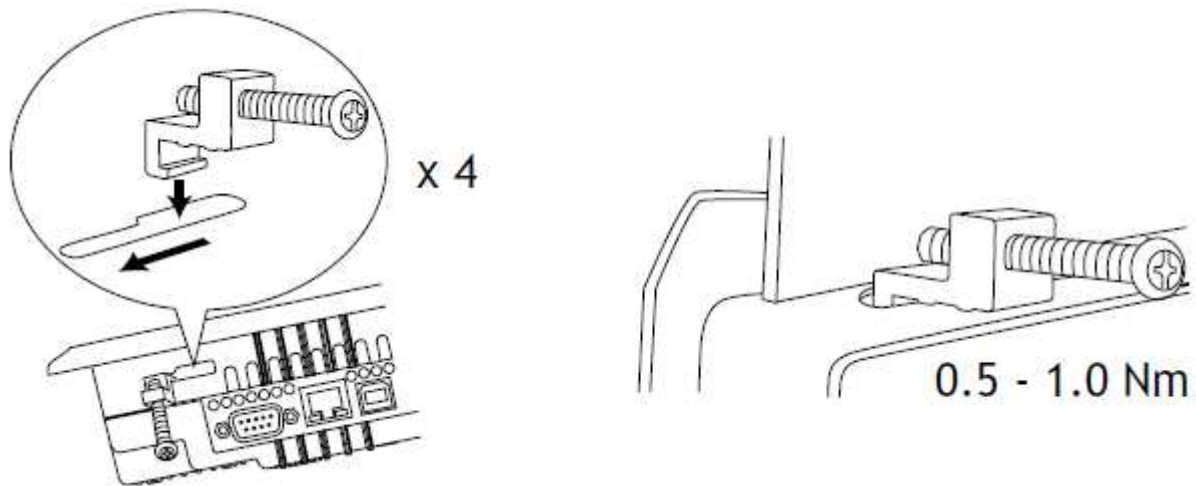

Figure 2-4: Fastening holes and brackets
3. Secure the operator panel in position, using all the fastening holes and the provided brackets and screws (see Figure 2-4).